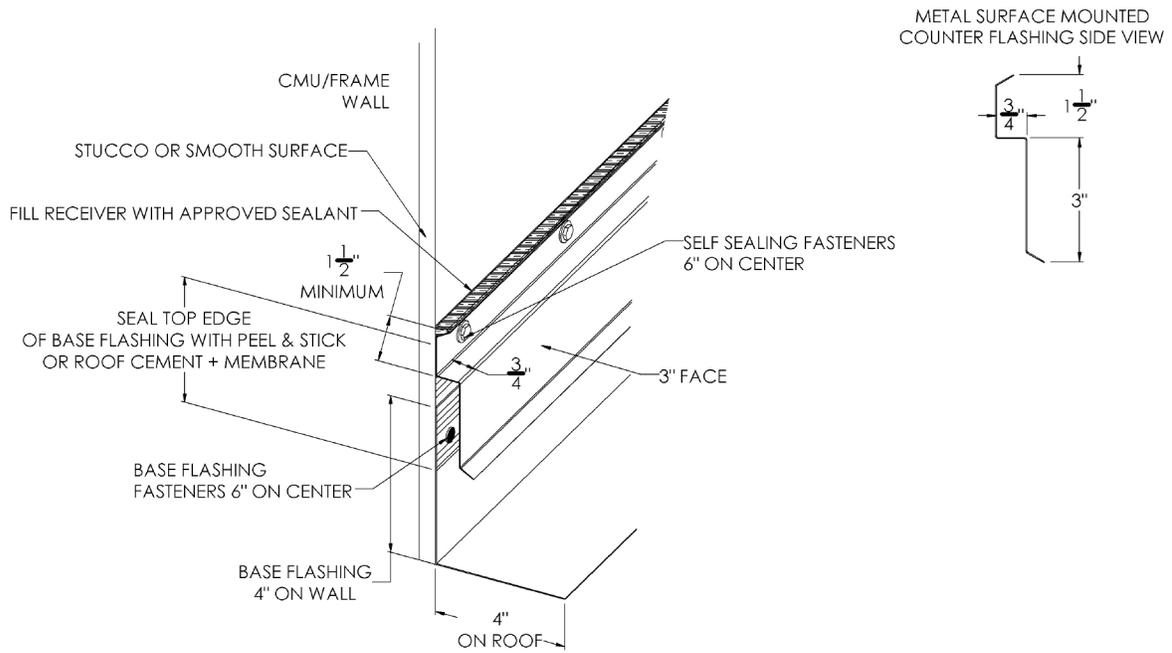

Figure 5
- Set **surface-type counter-flashing** in an approved sealant and install over existing cladding. Seal the counter-flashing top edge and fasteners with an approved waterproof sealant and membrane. If caulk receiver is provided at top edge, fill receiver void with approved sealant. Use self-sealing fasteners if fasteners are exposed. **(See Figure 5.)**